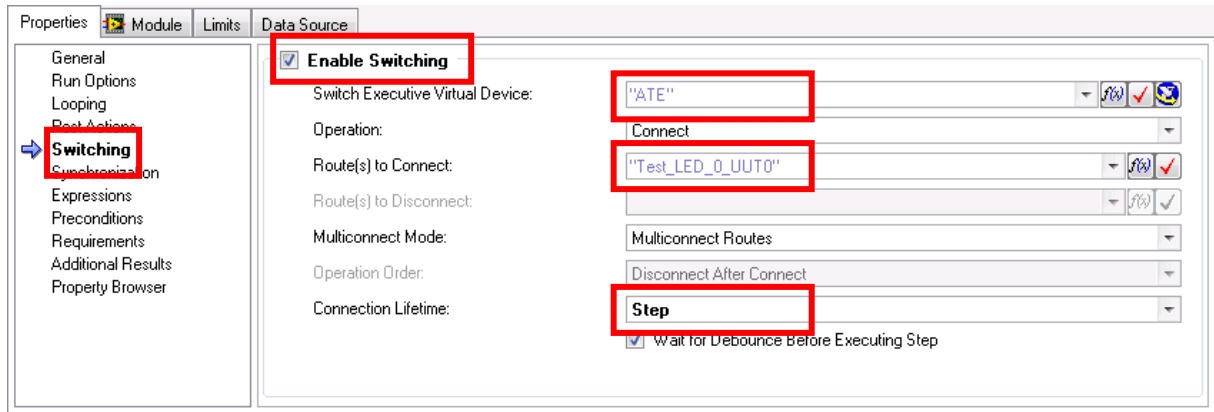

Figure 2-2. Configuring Switching for the White LED Test
3. Configure the switching for the blue LED Test step (refer to Figure 2-2).